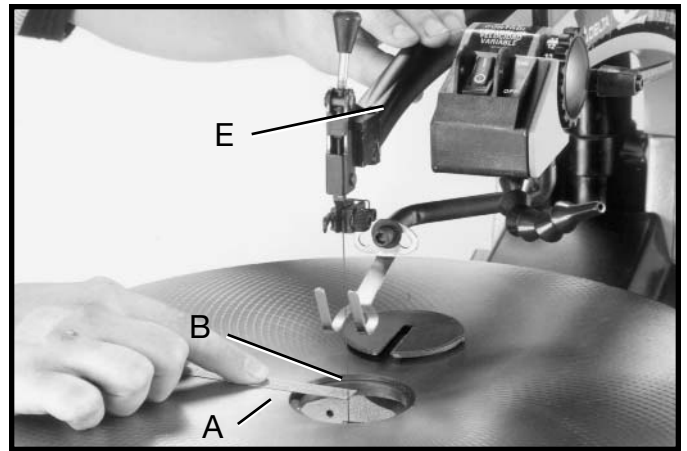

Fig. 32
2. Remove the table insert and place a small straight edge (A) Fig. 32, against the side of the saw blade (B) as shown in Fig. 32.
3. While holding the straight edge (A) Fig. 32, against the saw blade, carefully move the cutting arm (E) up and down in a cutting motion. **CAUTION:** Do not use excessive force on the cutting arm. The saw blade should contact the straight edge during the entire cutting stroke.